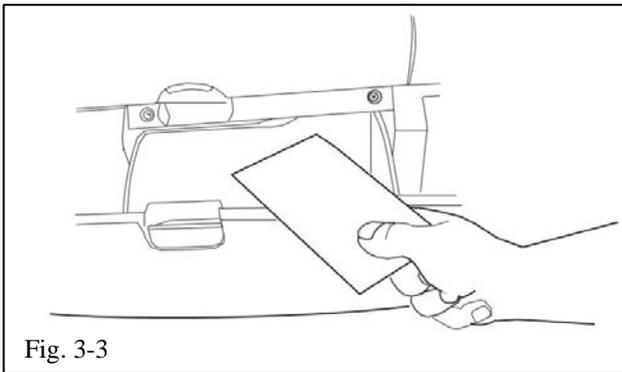

Fig. 3-3
- (c) Place Prism HomeLink® mirror operation instructions card into the vehicle glove box (Fig. 3-3).